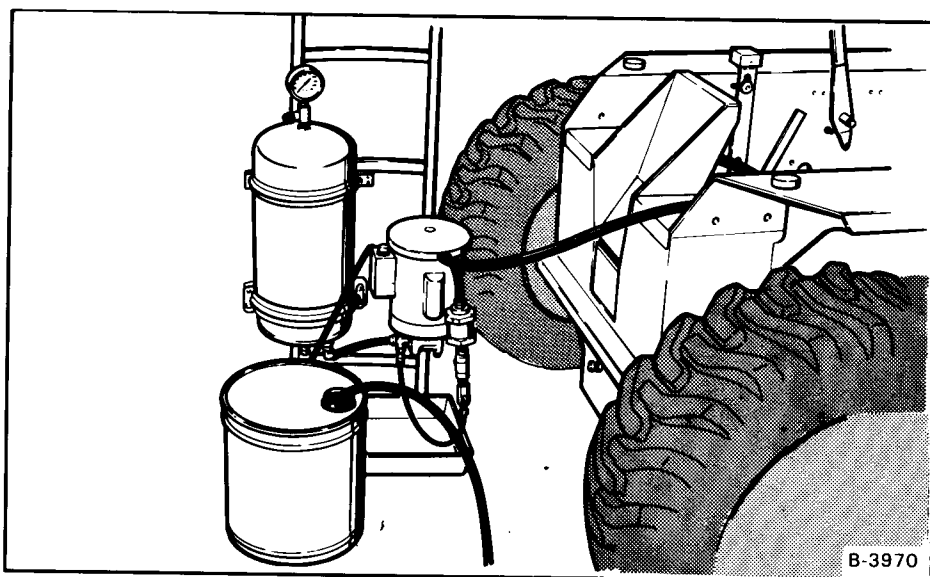

Fig. 70 Removing Oil
2. Remove chaincase oil using a suction pump (Fig. 70).